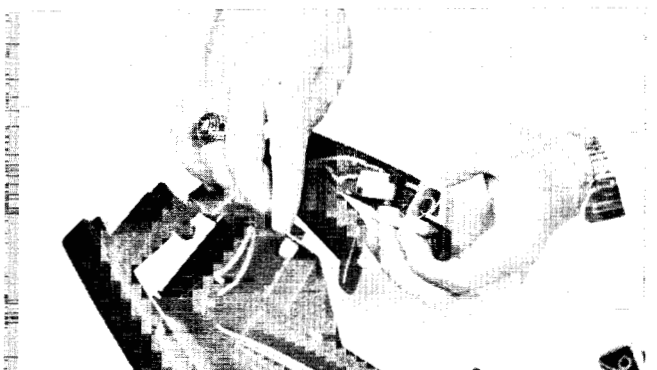

Figure 5.41e
- G. Carefully separate the battery case (fig. 5.41e).